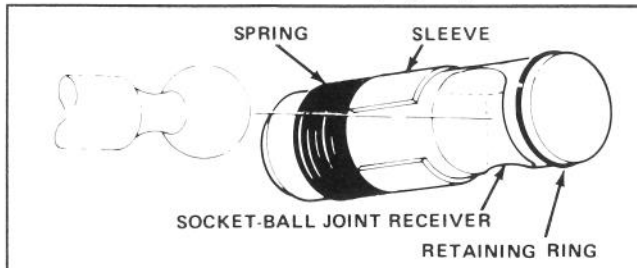

Figure 14
4. Align ball sockets with ball studs so hooded portion of socket is at top and open side toward stud (Fig. 14).
5. Slide the sleeve back on the ball joint and rotate the pull arm down so the socket fits over the ball stud. Release the sleeve so it slides forward over the stud and locks the assemblies together. Tighten the jam nuts to secure the sockets in position (Fig. 14).